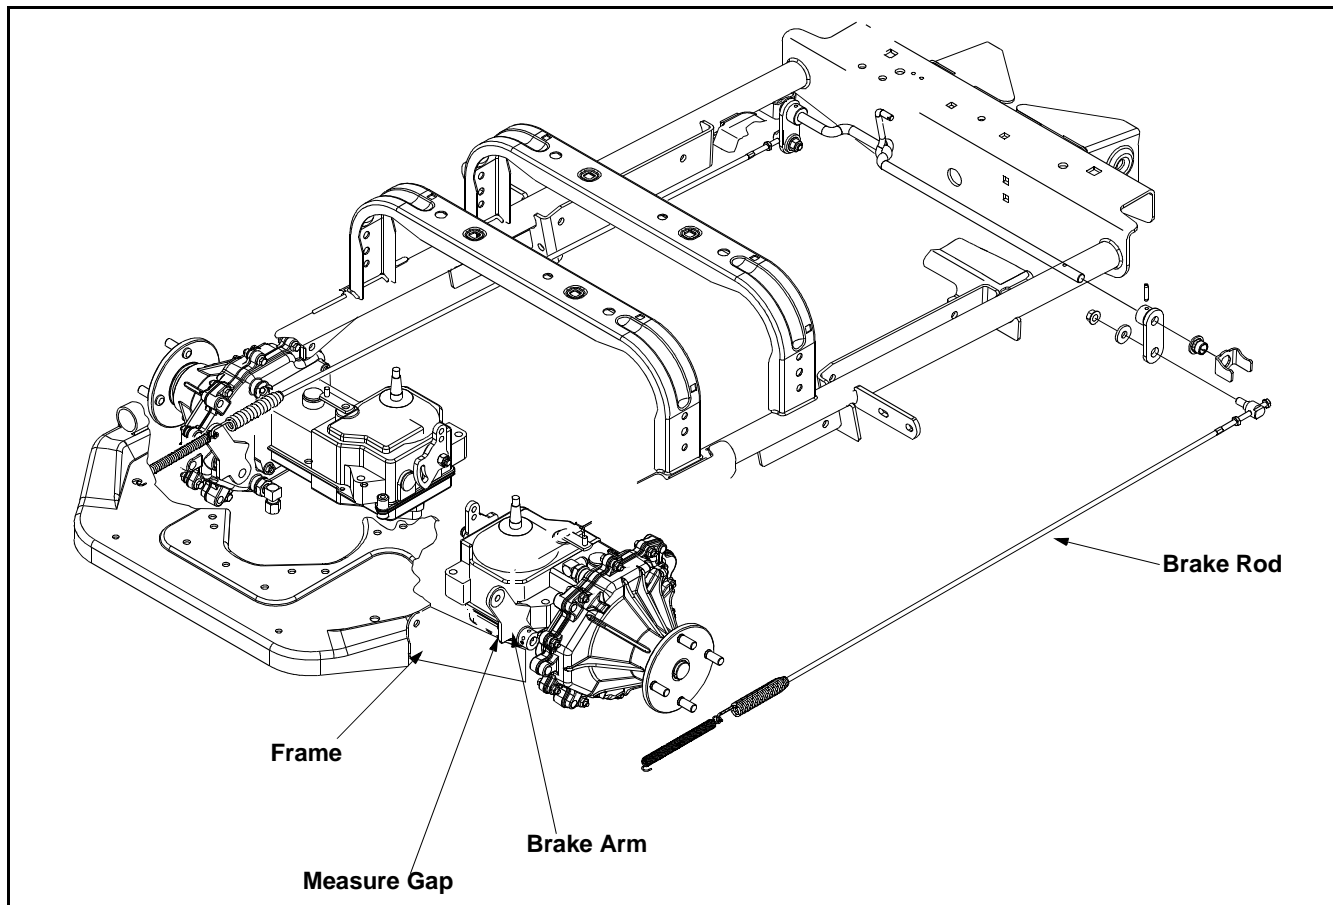

Figure 14
3. From underneath the Z-series directly behind the caster wheel pivot bar, locate the brake rods. There are two, one on the right and one on the left. (See Figure 14)
4. The factory sets a 1/16" gap minimum between the brake arm and frame of the Z-Series. More adjustment may be necessary. (See Figure 14)